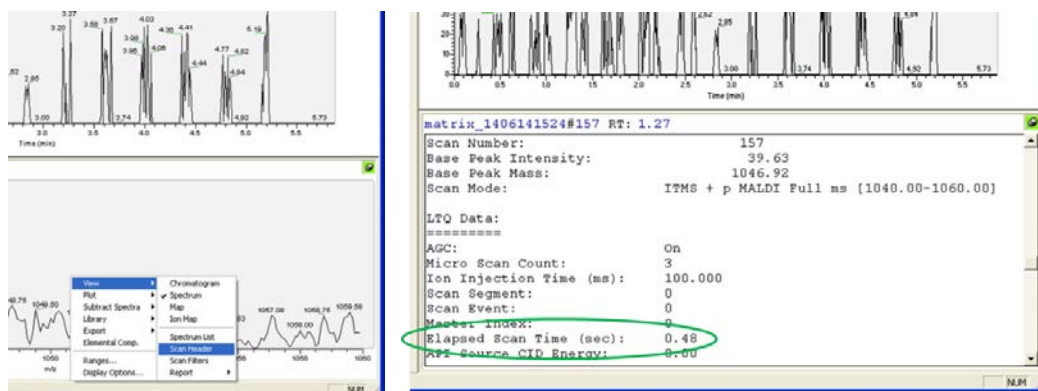

Figure 7.27. Viewing the Scan
- b. Qual Browser- right click to the MS window and select the **View >Scan Header** (the operator needs to look for the "Elapsed Scan Time"-see Figure 7.27).